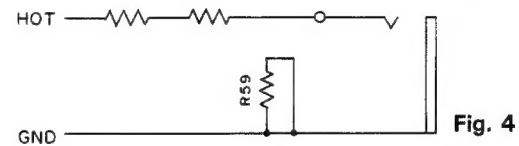

Fig. 4
- 2) When the phone jack is not inserted, the R59 circuit located between HOT and GND is open. (See Fig. 4)